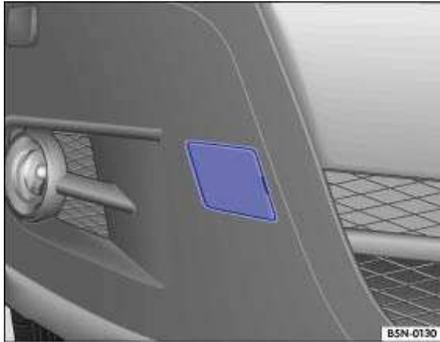

Fig. 45 In the right front bumper: removing the cover.
⇒ Fig. 45. The cover has to be removed to reach the hole. Use the lug wrench to install the towing eye into its mounting bracket. Make sure you install it all the way and that it is secure.
- Using the flat blade of screwdriver, pry the cover ⇒ Fig. 45 off and let it hang on the vehicle.